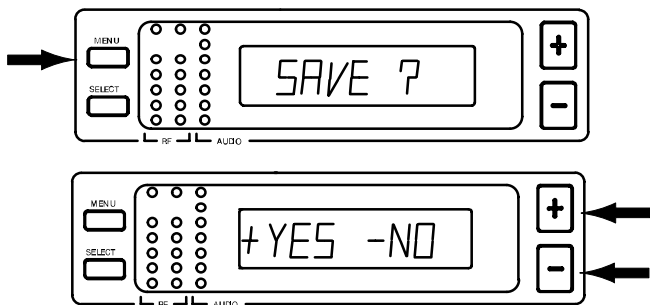
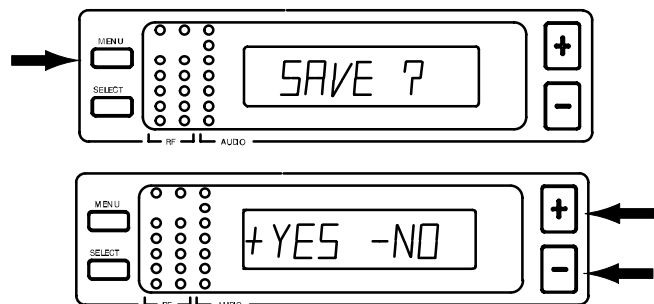

FIGURE 15
FIGURE 20
7. When the new Group/Channel has been completely entered, press the MENU button. "SAVE?" will appear on the display, followed by "+ YES - NO". Press the "+" button to save the new Group/Channel setting or press the "-" button to return to the original setting. See Figure 15.
- Press the MENU button to enter the desired frequency, as shown in Figure 15. SAVE? will appear on the display, followed by "+ YES – NO". Press the "+" button to save the new frequency, or press the "-" button to return to the original setting. See Figure 20.